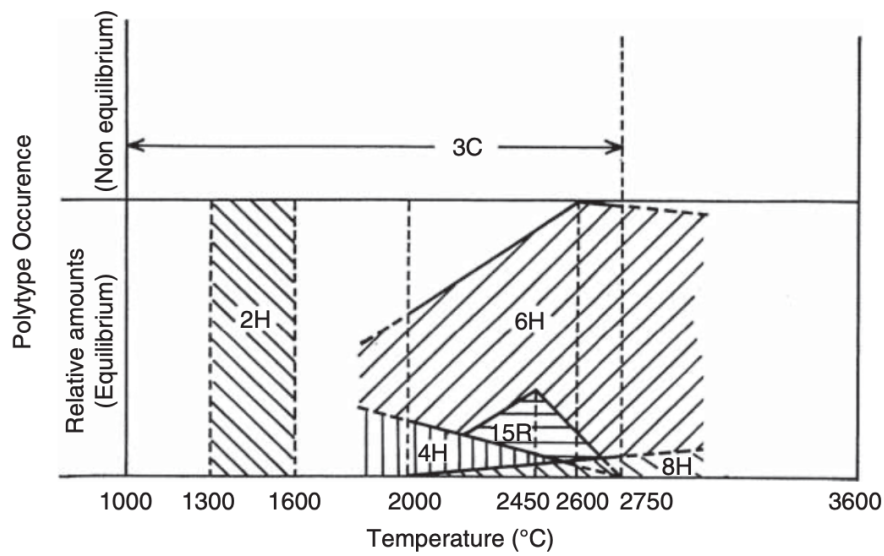
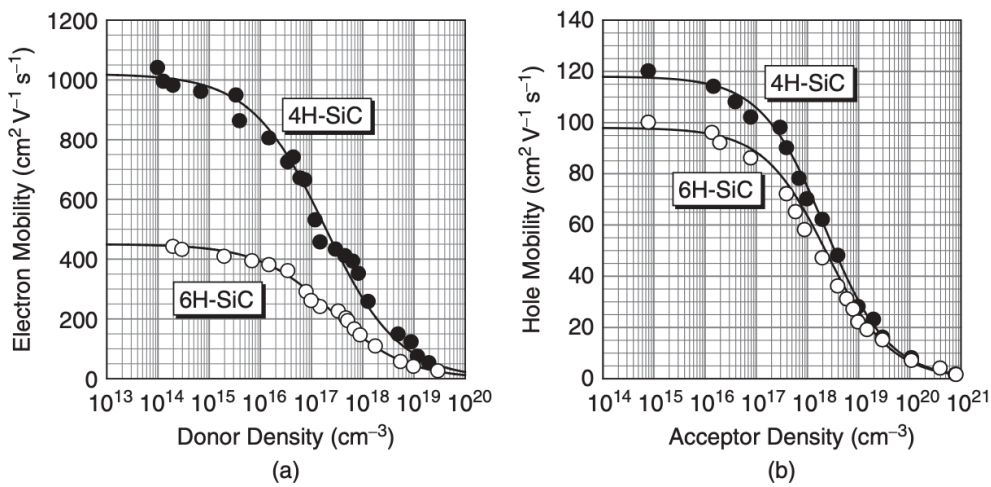

Fig. Q3a
Fig. Q3b
- (a) Fig. Q3a shows empirical observations of relative stability (or occurrence) of individual polytypes in SiC bulk growth; Fig.Q3b shows (a) Low-field electron mobility versus donor density and (b) hole mobility versus acceptor density for 4H-SiC and 6H-SiC at room temperature. Which SiC polytype should be chosen for power SiC MOSFETs ? What growth conditions shall be used for its growth ?